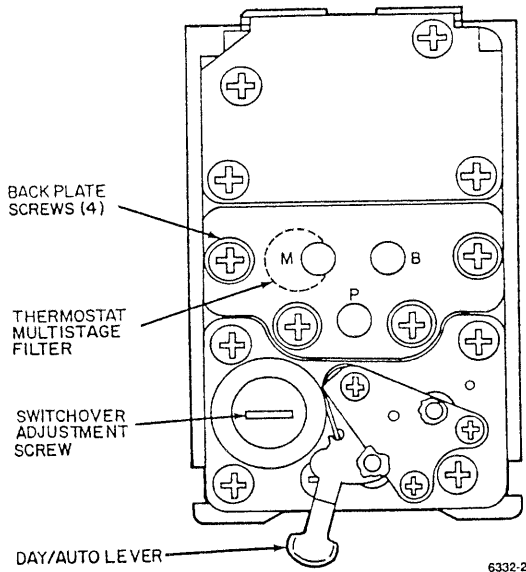

Fig. 11. Back View of TP971C Showing Switchover Adjustment Screw and DAY/AUTO Lever.
3. Pressure Gage should read 0 psi (0 kPa) (RA) or 13 psi (90 kPa) (DA). If it does not, turn switchover adjustment screw (Fig. 11) clockwise until it does.
4. Turn the switchover adjustment screw counterclockwise until the pressure begins to increase (RA) or decrease (DA). This indicates switchover. Allow the Pressure Gage to go to full main line pressure (RA) or 0 psi (0 kPa) (DA).
- Turn the switchover adjustment screw counterclockwise until pressure decreases to 0 psi (0 kPa) (RA) or increases to full main line pressure (DA). Turn the switchover adjustment screw an additional 1/8- to 1/4-turn clockwise.